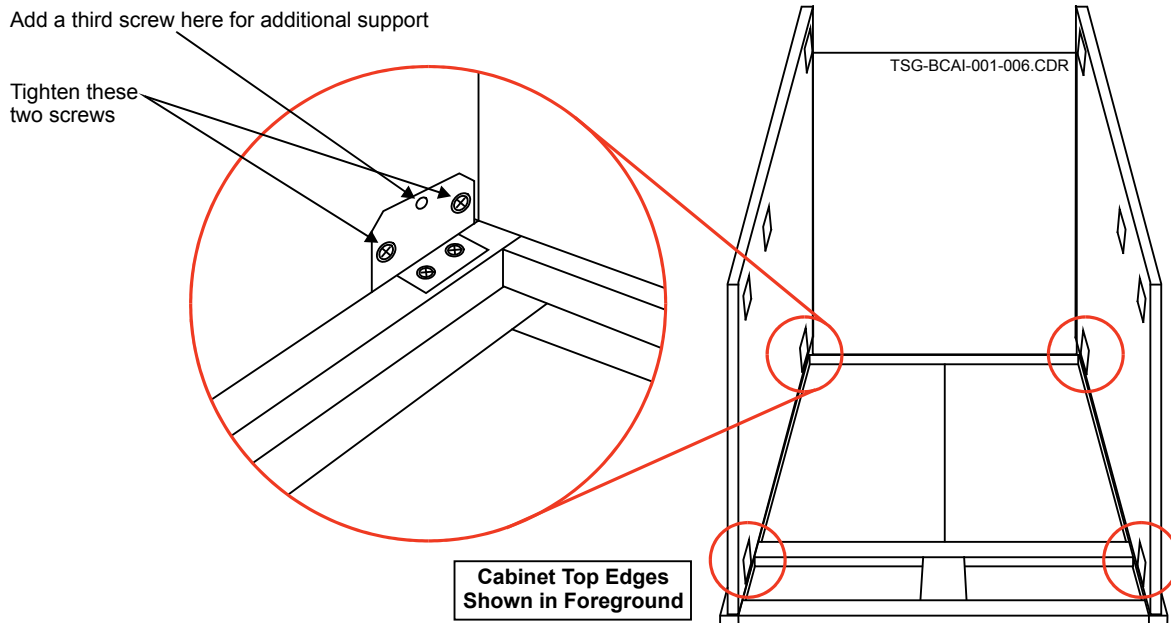

Figure 7 — Secure the Four Sets of Male/Female Clips Connecting the Frame/Side Panels
- (5) Referring to Figure 7, secure the four male clips on the opposite sides of the frame (two on each side) into the four female clips on the two side panels (two on each side) by tightening each of the two screws on the side of each clip and then adding a third screw for additional support.